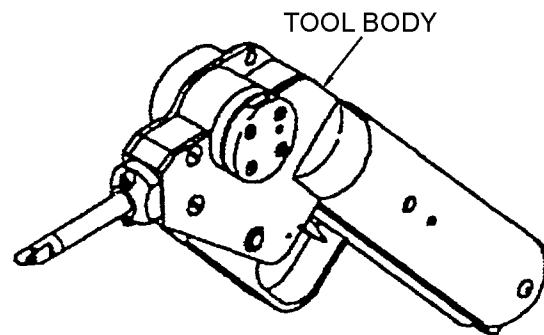

Figure 33. Pneumatic Safety Cable Application Tool
53. **PNEUMATIC SAFETY CABLE TOOL** (Figure 33). Confirm that the tool is set-up correctly and calibrated. Connect the pneumatic safety cable application tool to a clean dry air supply of 80 to 100 psi.